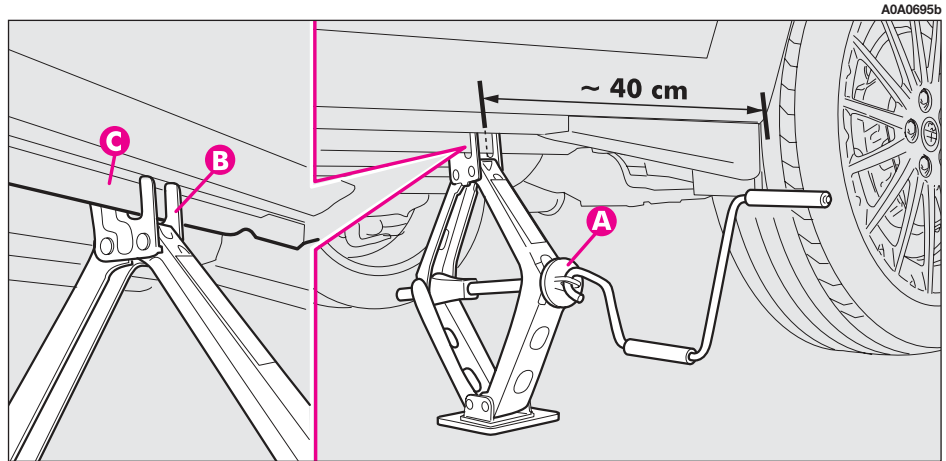

fig. 6
- Work the jack crank (**A-fig. 6**), to extend it until the groove (**B**) on the upper part of jack is correctly inserted on the lower profile of the body (**C**) approx. 40 cm from the profile of the wheelhouse.